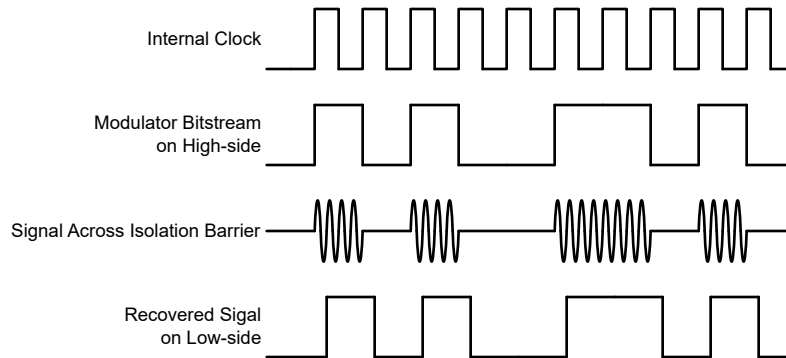

Figure 7-1. OOK-Based Modulation Scheme
The AMC0x11R-Q1 uses an on-off keying (OOK) modulation scheme, as shown in Figure 7-1, to transmit the modulator output bitstream across the SiO₂-based isolation barrier. The transmit driver (TX) as illustrated in the Functional Block Diagram transmits an internally generated, high-frequency carrier across the isolation barrier to represent a digital *one*. However, TX does not send a signal to represent a digital *zero*. The nominal frequency of the carrier used inside the AMC0x11R-Q1 is 480MHz.